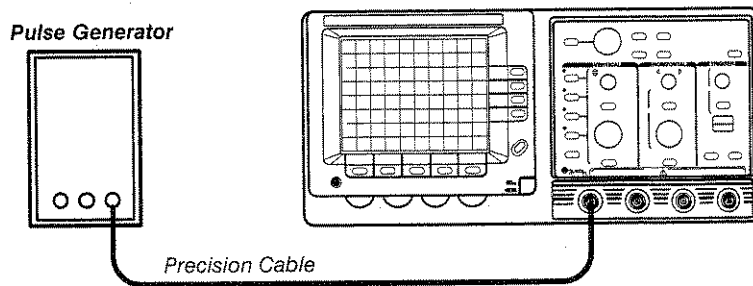

Figure 6-6: Gain and Voltage Test Setup
9. Connect the standard amplitude output of the pulse generator to the input of the channel to be verified as shown in Figure 6-6.